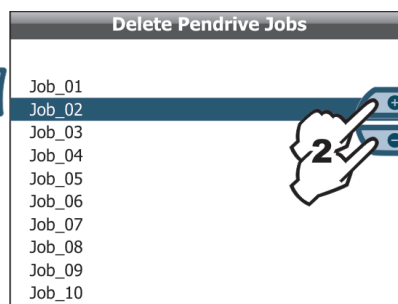

Fig. 70
- 2 Scroll the jobs list (Fig. 70) using keys **+** or **-** and select the file to delete;